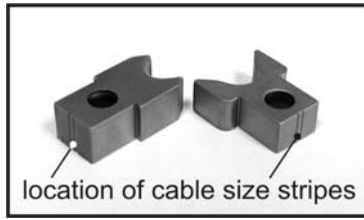

Fig.2.
- ❑ Each sub-insert, both upper and lower, is marked with stripes (Fig.2.). Both can have one or two stripes